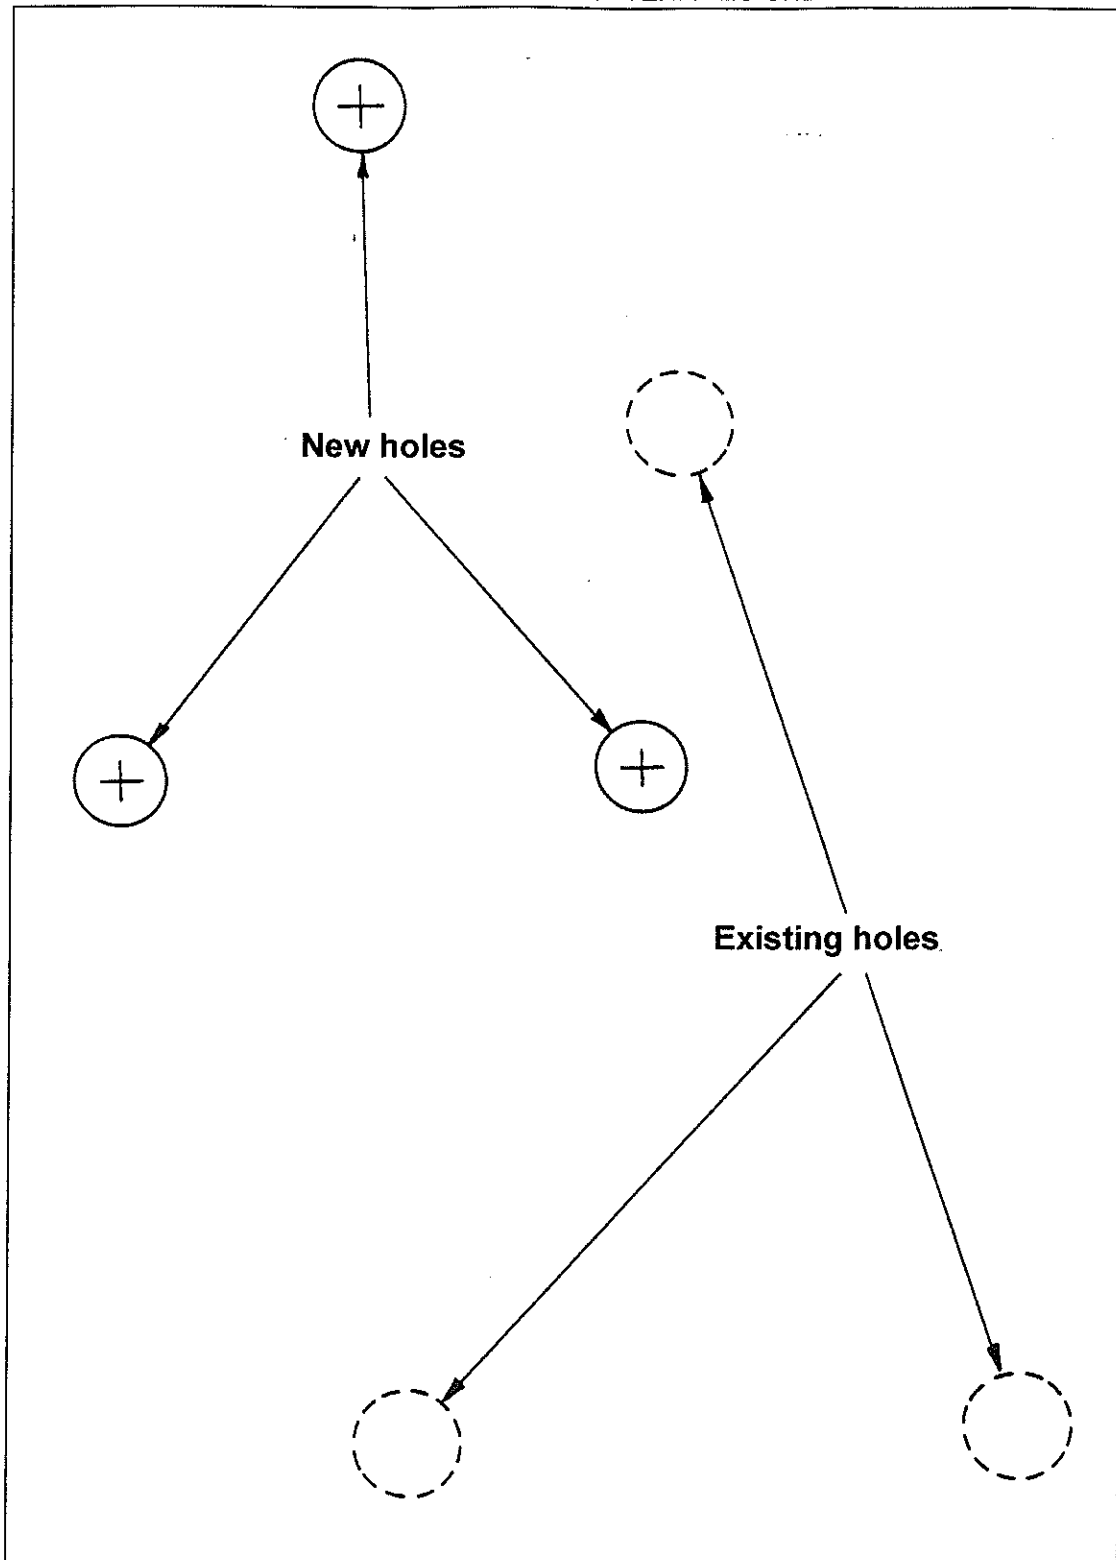

FIGURE 8: TEMPLATE FOR DRILLING (Applicable on "H3-40" vehicles only)
4. Remove the annexed sheet titled "Template For Drilling" (Fig 8), locate circles identified "Existing holes" then cut holes in paper following dotted lines. Align these holes with the existing ones on driver's compartment floor, then mark on floor the exact location where the three new holes have to be drilled. Drill 1/2" (13 mm) holes.